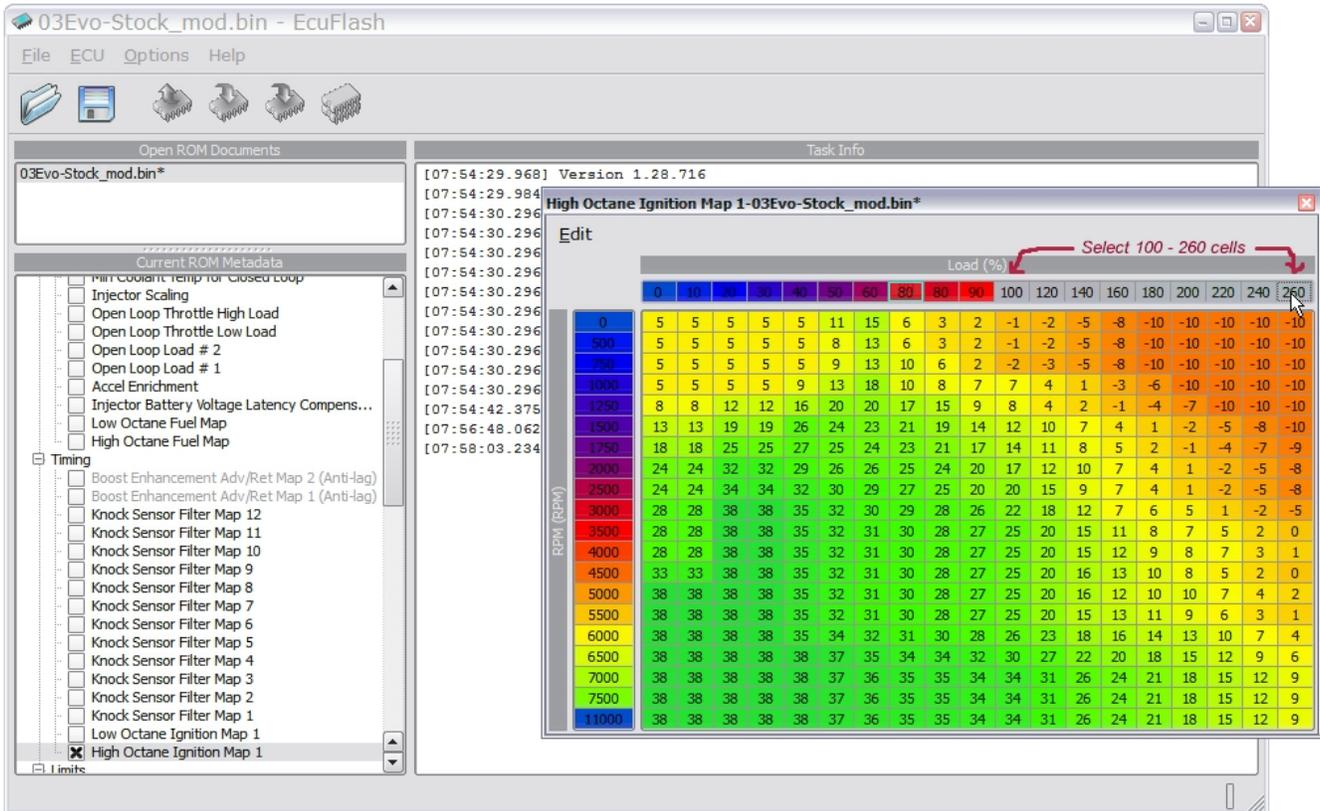

Figure 5, modified 2003 Evolution VIII ECU High Octane Ignition Map, select Load (%) cells
b.) Move the 100 to 260 column headers 2 cells to the left. (figures 5 to 9)
- o Select the 100 to 260 cells (figure 5)